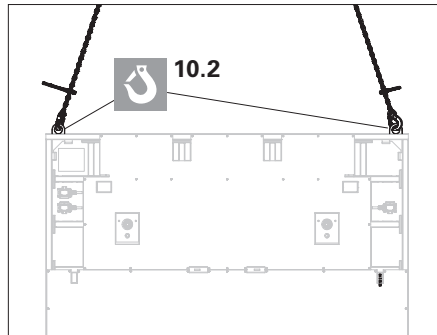

Fig. B4.01
Move Heated Panel Unit using the load-bearing point of the Crane Eye (10.2). (Fig. B4.01)
1. Attach Combi Lifting Gear to the load-bearing point of the Crane Eye (10.2) or Lifting Hook (4). (Fig. B4.01 + B4.01a)